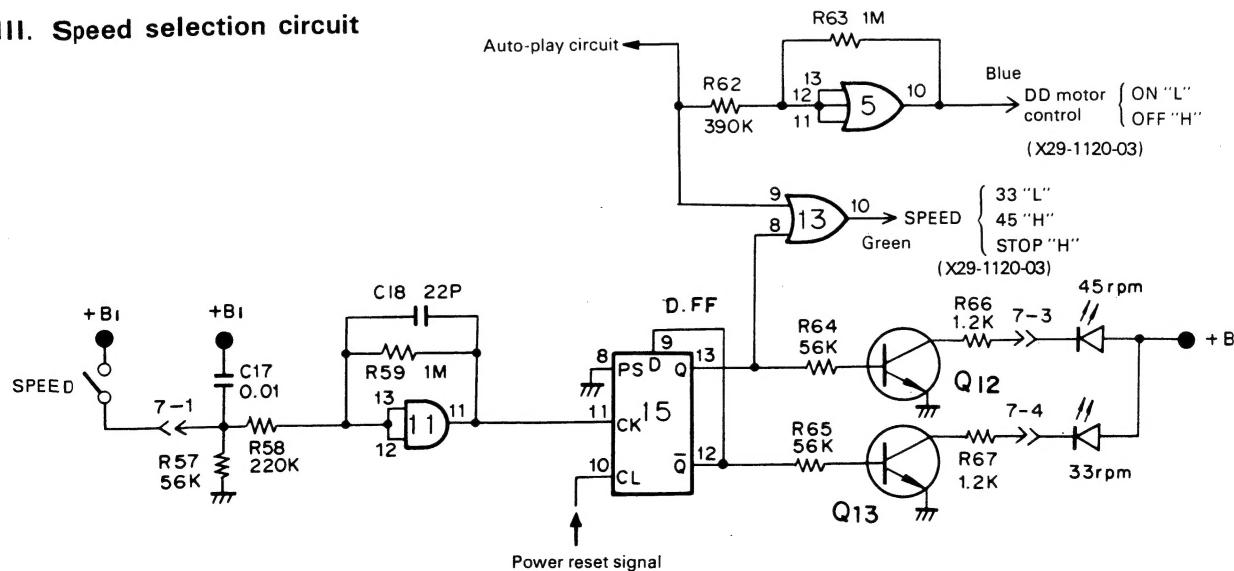

Fig. 1 Speed selection circuit
IC6-13 is "H", and IC6-12 is "H" unless the tonearm is on the arm rest, so IC6-11 is "H" and Q4 is ON. Thus, the record size indicating LED "30D" is lit. At this time, since IC13-3 is "H", Q7 is ON and the 30 cm size LED D1 (in (B) of Fig. 1) is lit.
The tonearm is moved by means of the tonearm drive motor and gears. The motor drive circuit is shown in Fig. 1.